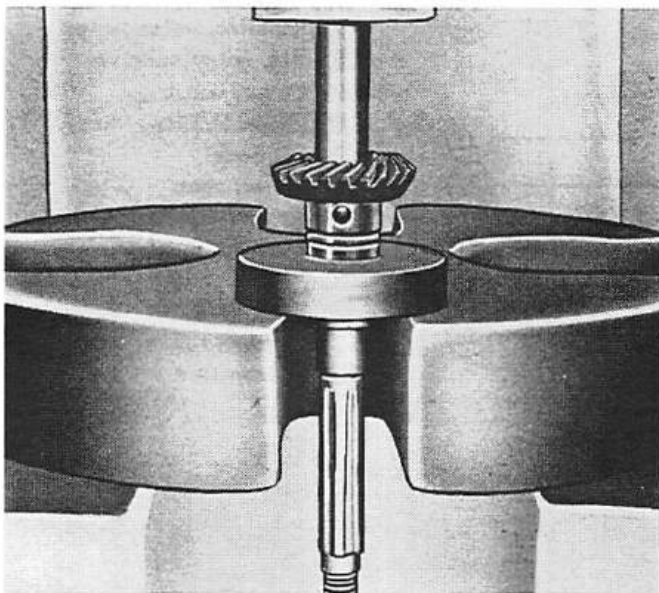

Figure 8. Pressing Off Propeller Shaft Gear
7. To remove propeller shaft ball bearing and gear with Propeller Shaft Gear Tool (91-26376A1), use open end of cup to remove ball bearing and other end to remove gear on shaft (Figure 8).